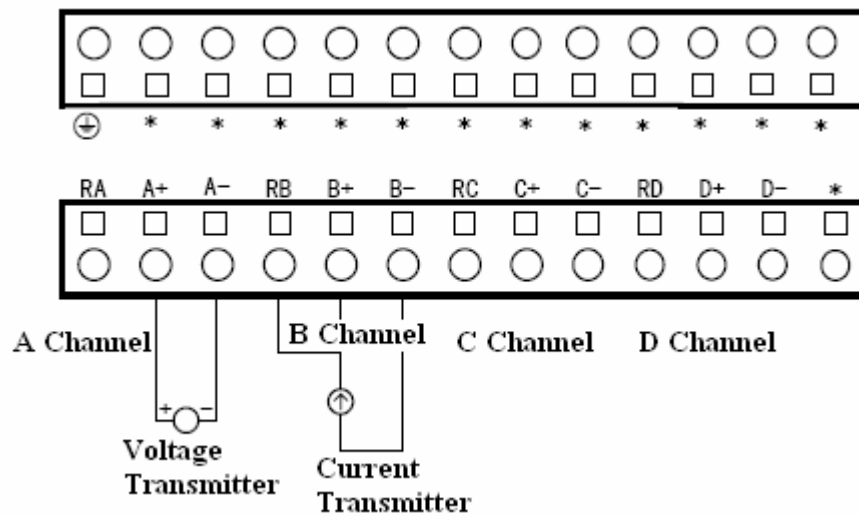

Figure3-2-7 LM3310A Terminal Definition & Wiring
See Figure3-2-7 for terminal definition and typical field wiring of LM3310A 4 analog input channels.
- Lower level terminals are signal input channels. Input signal can be either voltage or current signals. In Figure3-2-7, when input signal is voltage signal, A+ connects the positive end of voltage transmitter and A- connects its negative end. When input signal is current signal, short connect RA and A+ connect the positive end of current transmitter, A- connects the negative end of current transmitter.